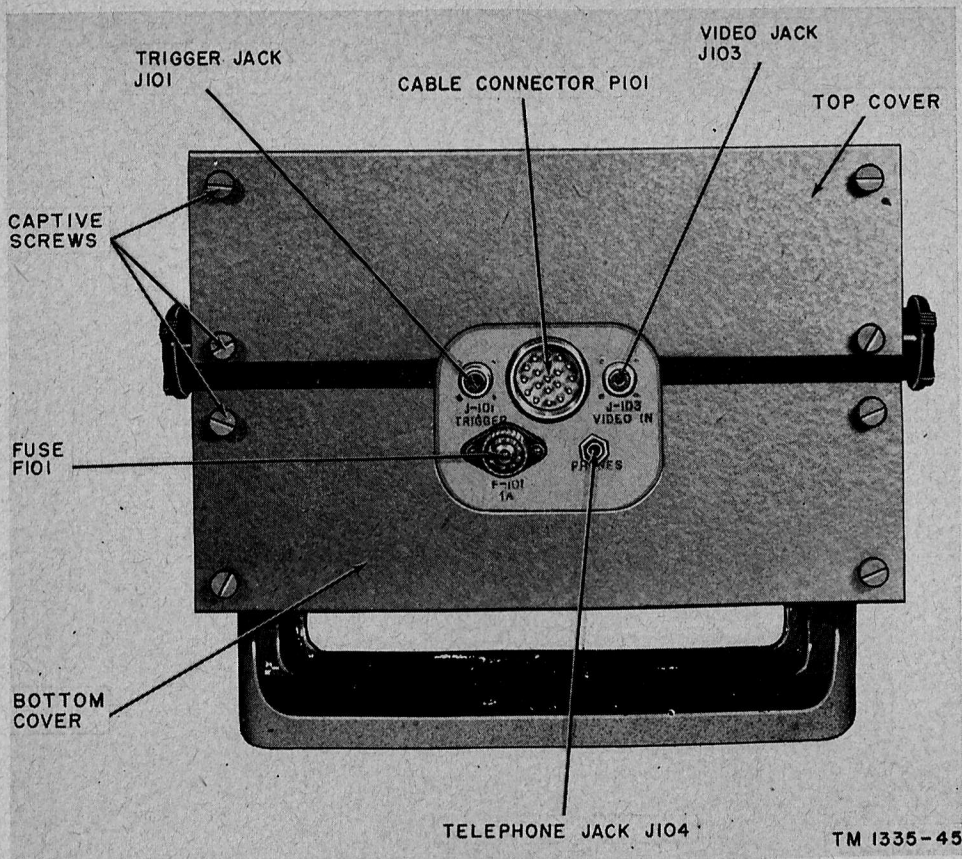

Figure 43. Indicator connector panel.
- (1) Connect cable W708 to male plug P101 located at the rear of the indicator (fig. 43).
- (2) Connect coaxial cable W709 to trigger jack J101.
- (3) Connect coaxial cable W707 to video jack J103.